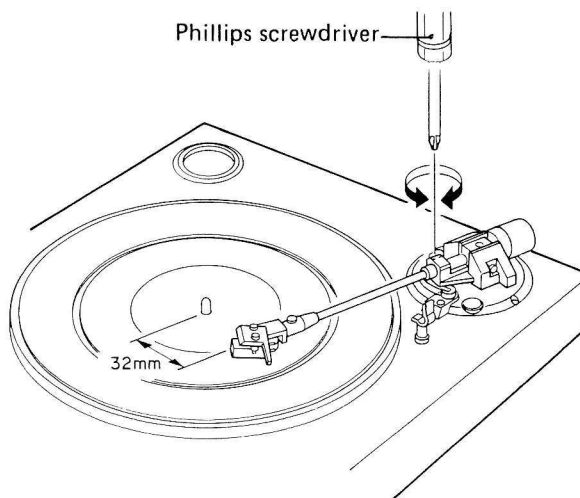

Fig. 7-3 Auto-return position adjustment
5. Stop turning the adjustment screw at the point at which there is a space of 32mm between the stylus of the cartridge and the center shaft. (Fig. 7-3)